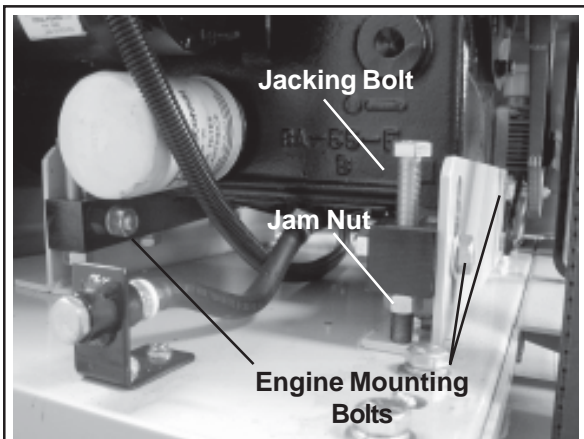

Figure 10
- Loosen engine mounting bolts and jam nut, then turn jacking bolt to lift or lower engine mount. Lift engine to tighten belts lower engine to loosen belts. (Figure 10)
- The model SS-35 and SS-65 are heavy duty saws designed to use large diameter blades for deep cutting. SS-35 - blade size 14 inch to maximum diameter of 26 inches (66cm). SS-65 - blade size 14 inch to maximum diameter of 36 inches (92cm). (Figures 10 thru 15)
- Remove belt guard and arbor guard. Loosen engine mounting bolts and jam nuts, turn jacking bolts to lower engine (Figure 10 thru 15) to a point where the belts can be removed. Remove jackshaft belt on SS-65D first to gain access to arbor shaft belts.